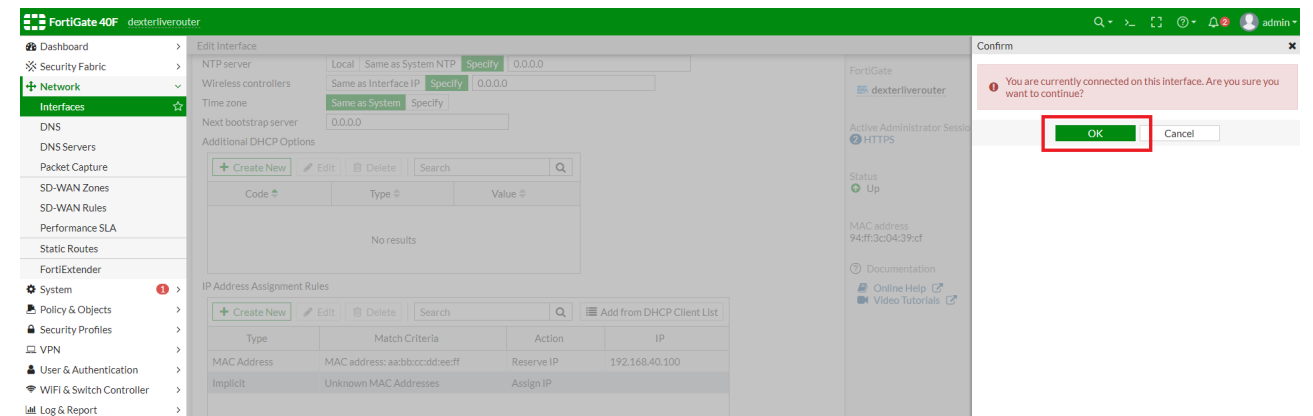

Figure 29
22. Confirm the selection by selecting "OK". This may require some loading time. (Figure 29)